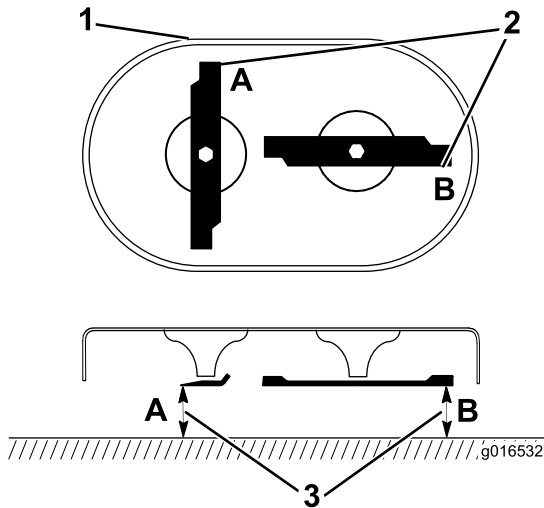

Figure 37
1. Rotate the blades until they are positioned as shown in Figure 37.
2. Measure from a level surface to the cutting edges at locations A and B, (Figure 37), and record both dimensions.